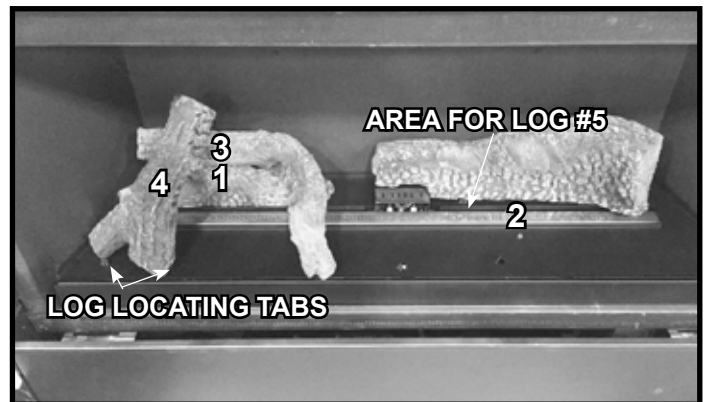
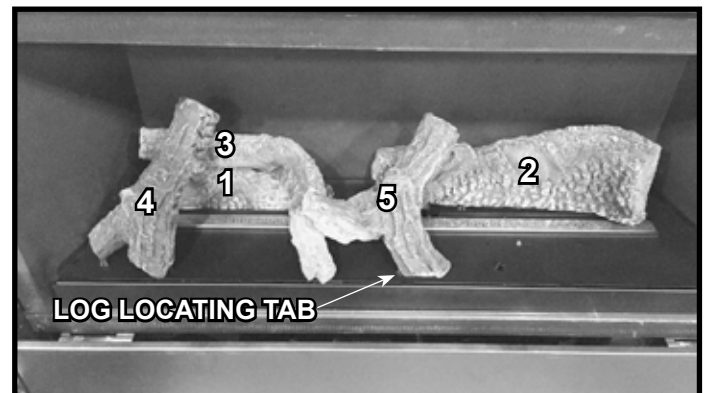

Figure 8. Place Log #4
Figure 9. Place Log #5
12. Install Log #4 by placing the forked end down onto the base pan and leaning the top end of Log #4 back so that it is resting on Log #3. The forked end should contact two placement tabs. See Figure 8.
13. Install Log #5 by placing the forked end down as shown in Figure 9. One side of the fork will rest on Log #3 and the other side of the fork will touch the designated log placement tab. The other end of the log rests on the smooth area on Log #2 noted in Figure 8. See Figure 9.